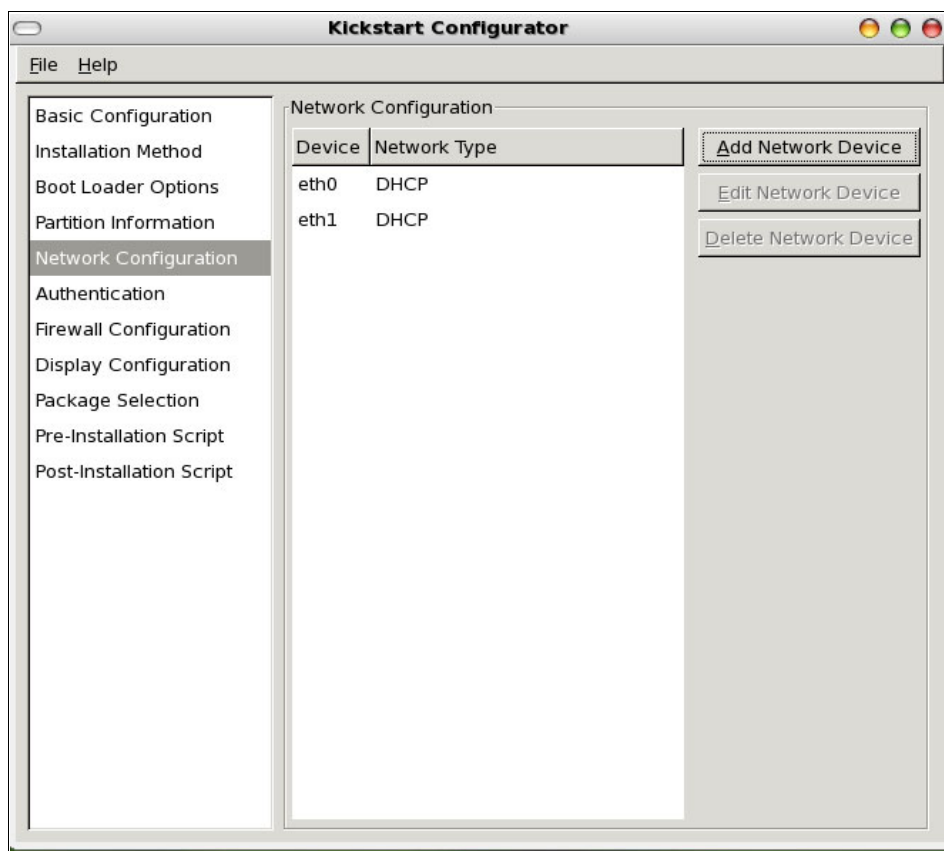

Figure 0-4 Kickstart Configurator Network Configuration panel (©2008 Red Hat, Inc.)
5. In the Network Configuration panel, click **Add Network Device** to add the devices you are installing from. If you need to go back and make changes to this setup, click **Edit Network Device** (see Figure 0-4).